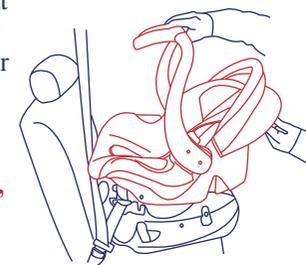

Fig. 46-2
15.2.9) If you are using the Base, check that nothing is on top of the base, or anything that will interfere with the proper latching of the Safety Seat to the Base. Place the Safety Seat onto the Base and push down until the Safety Seat latches securely to the Base and you hear a click. Pull upward on the Safety Seat to check that the Safety Seat is securely latched onto the base. Please see figure 46-2.